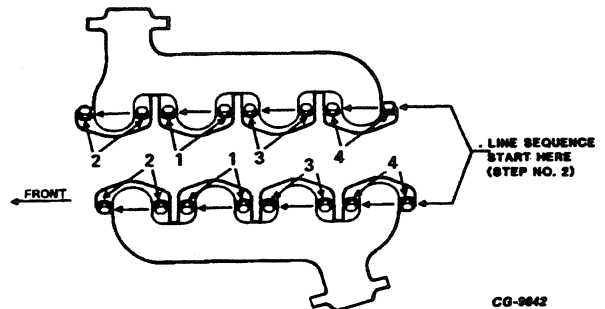

Figure 4. Exhaust Manifold Bolt Torque Sequence
NOTE 4 - Apply "Never Seez" compound (P/N 634 227 C1) to threads of bolts prior to assembly, then torque in steps as specified in **Figure 4**.
- STEP 1. Tighten bolts to 35 lbf-ft. (47 N•m) in numbered sequence (Figure 4).
- STEP 2. Tighten bolts to 35 lbf-ft. (47 N•m) in line sequence (Figure 4).